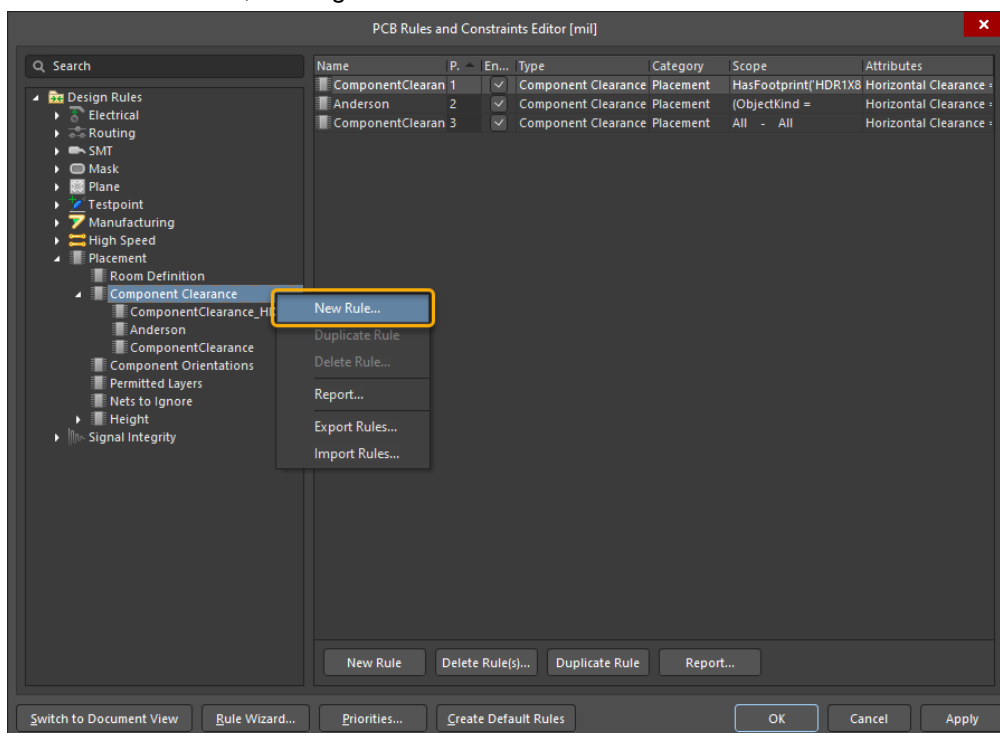

Figure 19. Placement Rule
42. Open the Design Rules menu **Design » Rules**, add a new **Placement – Component Clearance Rule**, see Figure 19.